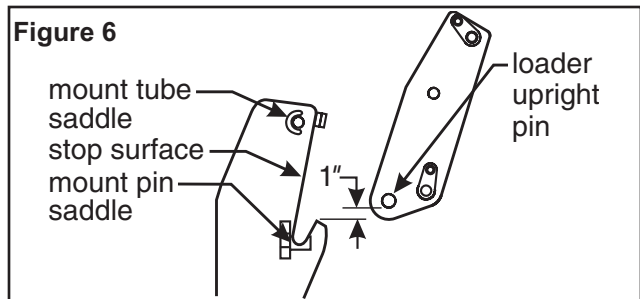

Figure 6
9. With overhead hoist, position loader upright pin to clear mount pin saddle by 1" (see Figure 6). Start tractor engine and move tractor forward until both loader upright pins come to rest against flat vertical stop surface of both mounting brackets. Shut off engine and set brakes.